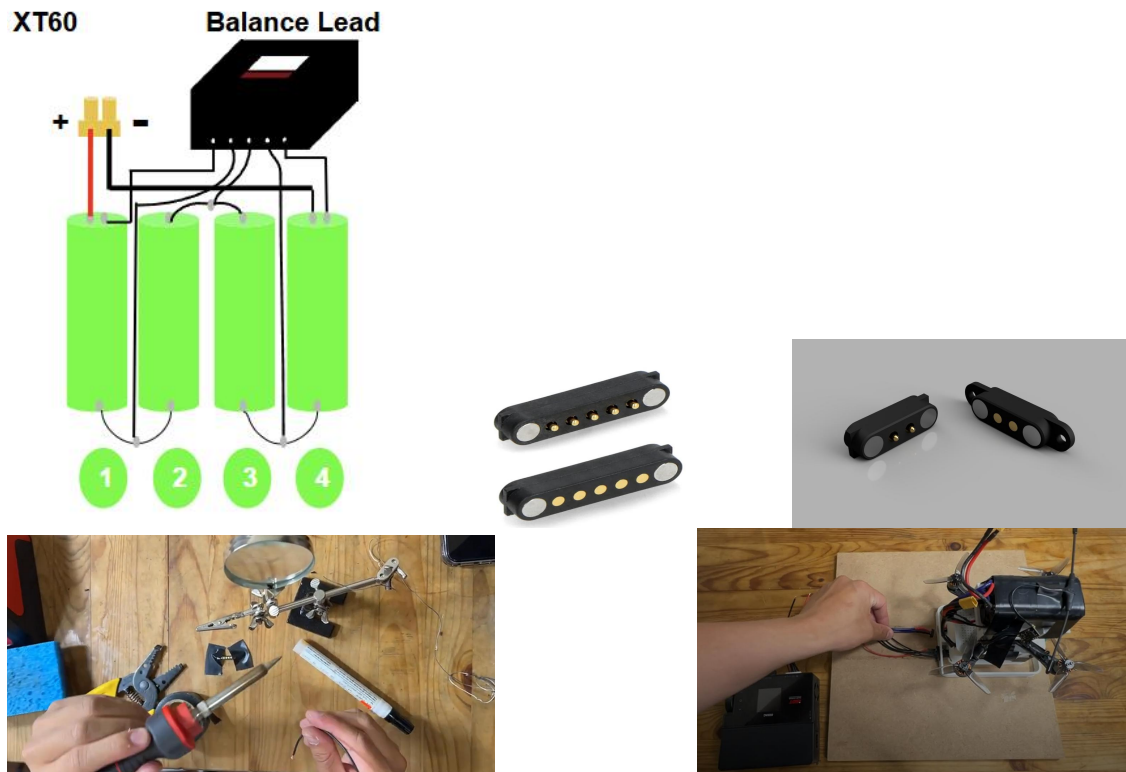

Figure 3: Wiring diagram of the 4S1P battery pack with XT60 and Pogo Pin connectors for iSDT 608AC integration
4.3.1. Solder 16 AWG red and black wires to the main power leads (positive and negative nickel strips). Attach the XT60 connector to these wires, ensuring the positive wire connects to the XT60's positive terminal and the negative to the negative terminal, as shown in Figure 3. Use heat shrink tubing to insulate the solder joints.
- 4.3.2. Solder the 2-pin Pogo Pin connector (male) to the power leads for charging, and the 5-pin Pogo Pin connector (male) to additional 16 AWG wires extending from the cell junctions (positive of first cell, junctions between cells, and negative of last cell) for SoC monitoring by the iSDT 608AC, as depicted in Figure 3. Insulate all connections with heat shrink tubing to prevent short circuits.
- 4.5.1. Connect the iSDT 608AC charger to the battery pack via the XT60 connector, ensuring proper polarity (positive to positive, negative to negative). Attach the 5-pin Pogo Pin connector (female) on the docking station to the charger's balance port to enable SoC monitoring and cell balancing, as shown in Figure 3. Place the battery in a fireproof Li-Ion charging bag during charging to enhance safety.